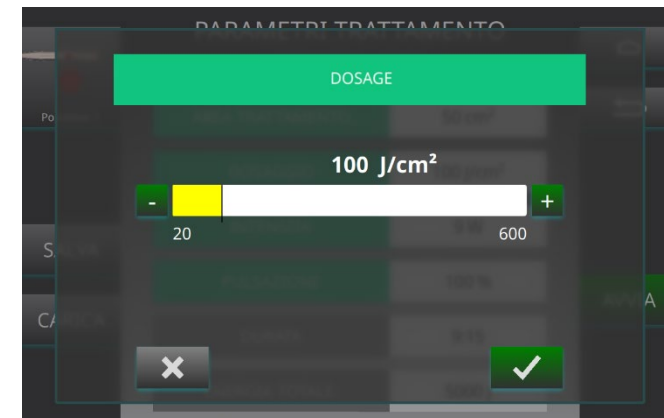

fig. 5
3. For the **DOSING** (J / cm²) parameter, increase or decrease the value using the + or - buttons or by scrolling the cursor to the right or left until the desired value is reached (figure 5).